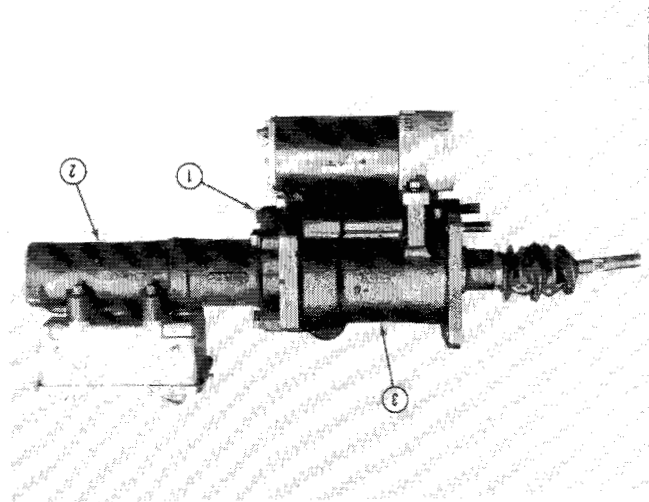

Figure 5
Remove four capscrews and lock washers (1, Figure 5) and separate master cylinder (2) from power booster assembly (3). Remove gasket.